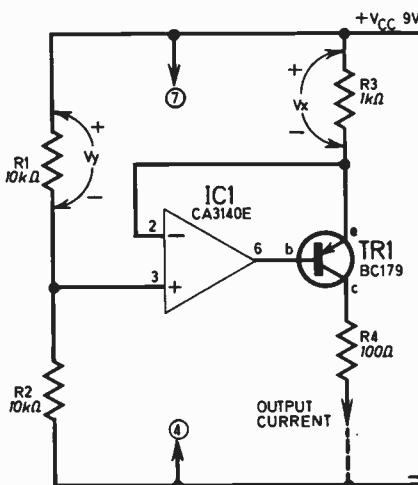

Fig. 6.13. Current source circuit.
**Q6.1** The circuit shown in Fig. 6.13 is designed to fix TR1 emitter current at a value set by R1, R2 and R3.